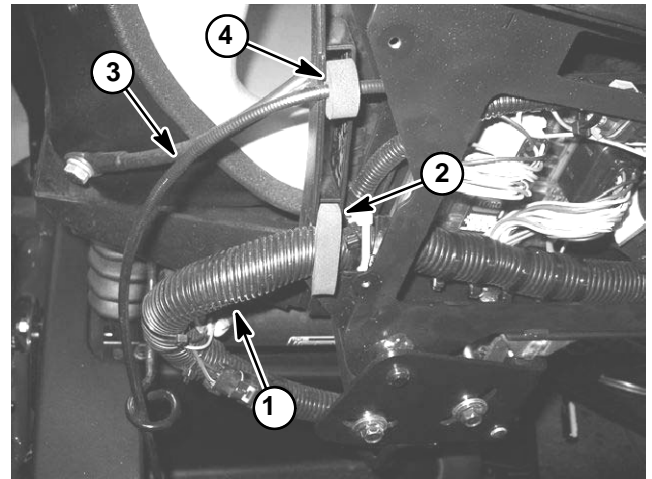

Figure 13
2. Position covers to control arm. As LH cover (item 3) is placed, plug wire harness connector to headlight switch. Also, make sure that wire harness and throttle control cable are routed correctly through cover openings (Fig. 13).
3. Secure each cover to control arm with five (5) washer head screws (item 16). Install screw (item 6) and lock nut (item 5) to secure covers at front of control arm.